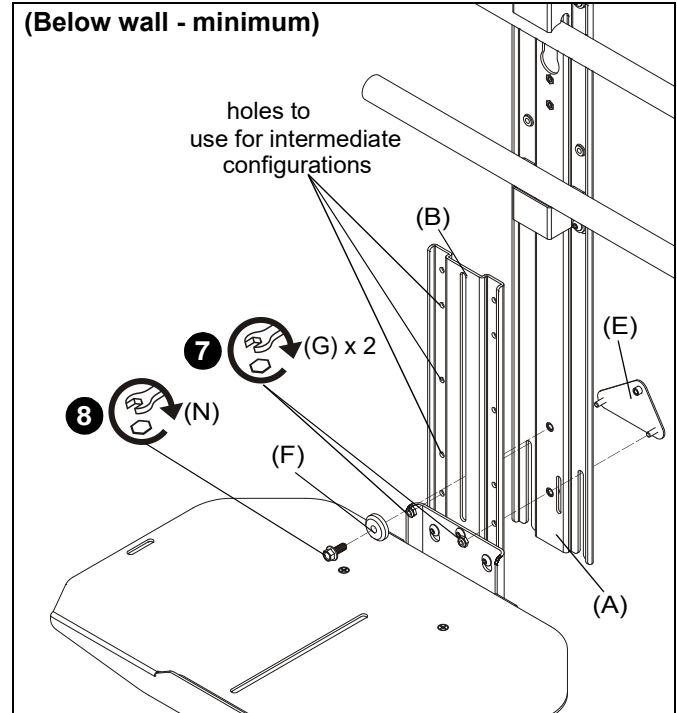

Figure 6
- (For **minimum/intermediate extension**) Use two #10-24 lock nuts (G) to secure upright bracket (A) to main bracket (B) and adapter plate (E). (See Figure 6)
NOTE: Minimum configuration is shown in Figure 6. Several intermediate configurations are possible depending on which holes are used.
- (For **minimum/intermediate extension**) Use 1/4-20 x 5/8" hex head flange bolt (N) and center washer (F) to secure upright bracket (A) to main bracket (B). (See Figure 6)